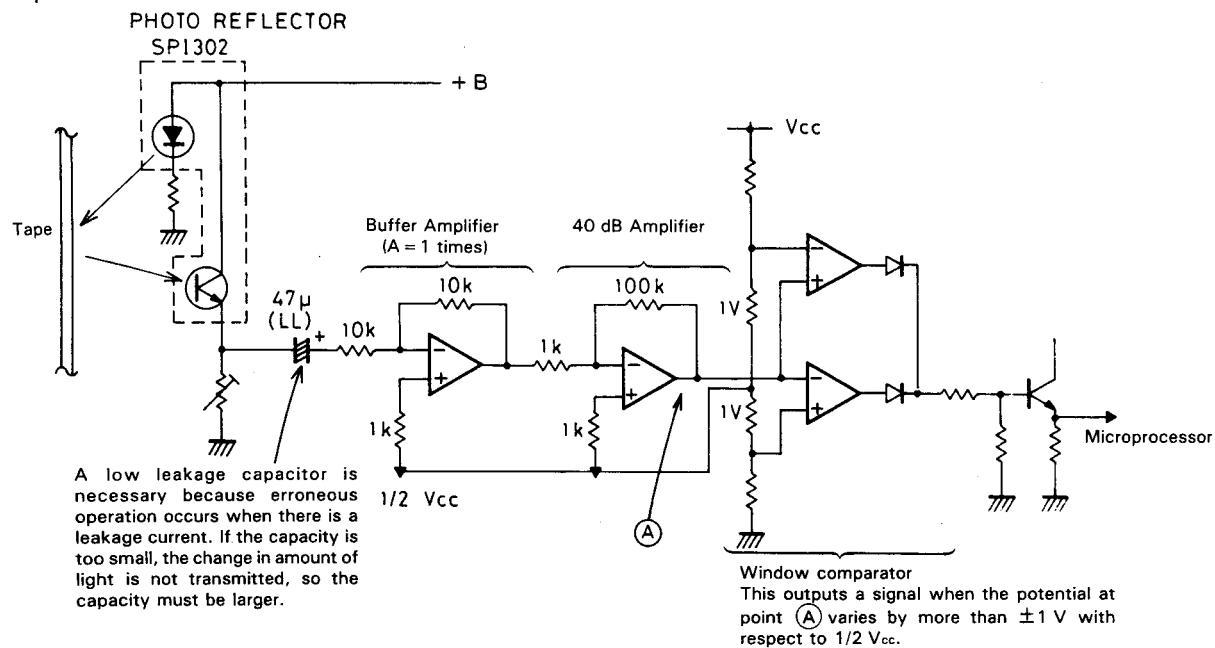
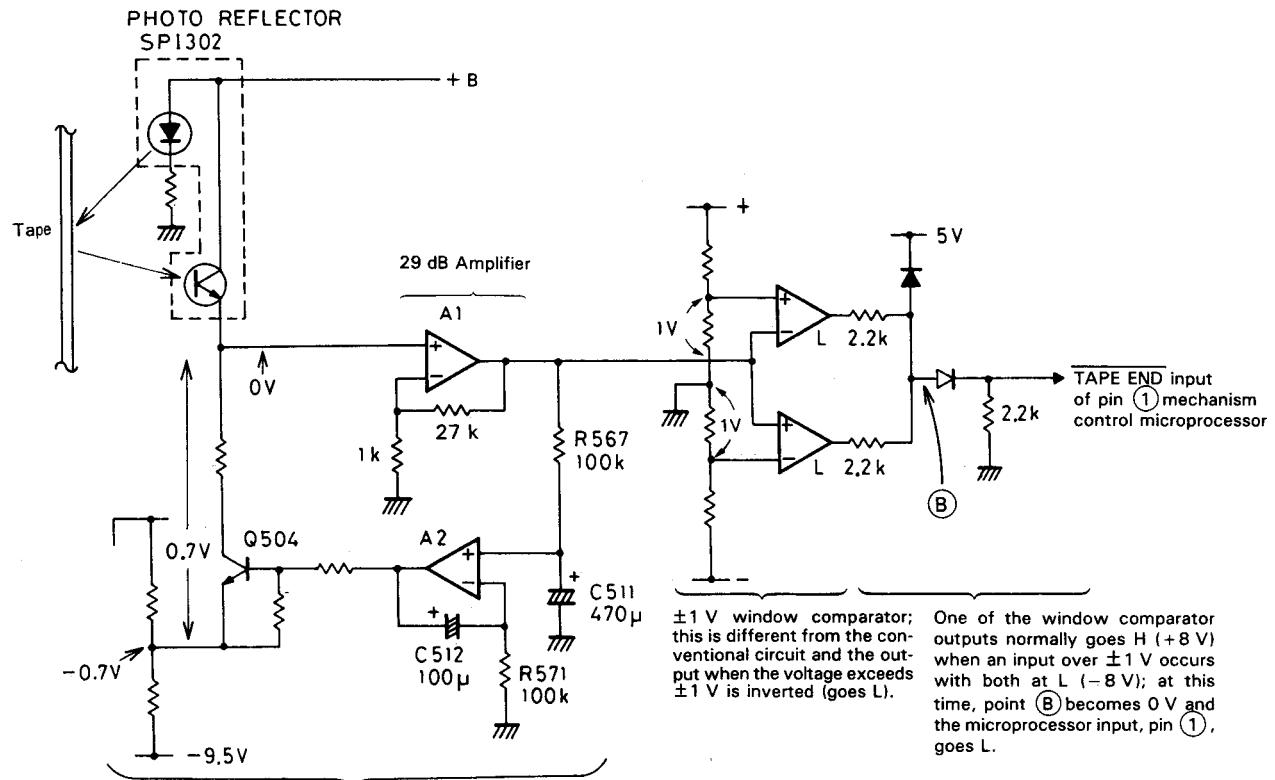

Fig. 4 Conventional quick reverse circuit
Fig. 5 Quick reverse detection circuit in the DD-VR77
- The PWM signal divides 5.12 ms into 256 pulses as shown in Fig. 4 and it obtains control voltages with a maximum width of 256 pulses. From this it will be seen that the time necessary to change the width of the PWM pulse from maximum to minimum is:
cuits is that, with this construction, it is not necessary to adjust the sensitivity of the phototransistor. Fig. 4 shows the conventional circuit and Fig. 5 that used in the DD-VR77.